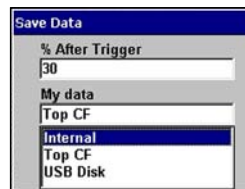

Figure 5-12 Sample Save Data dialog box
4. Set **Internal** as the **My Data** option and press **N/X** to close the dialog box (Figure 5-12).